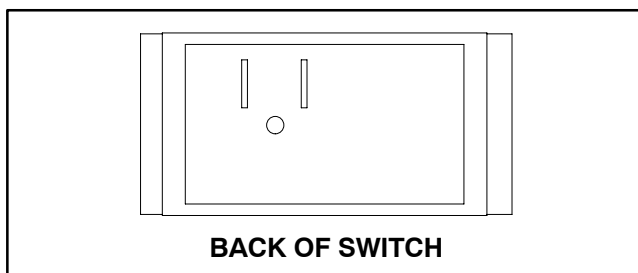

Figure 13
2. The switch terminals are marked as shown in Figure 13. In the ON position, continuity should exist between the two terminals. In the OFF position, there should be no continuity between the switch terminals.